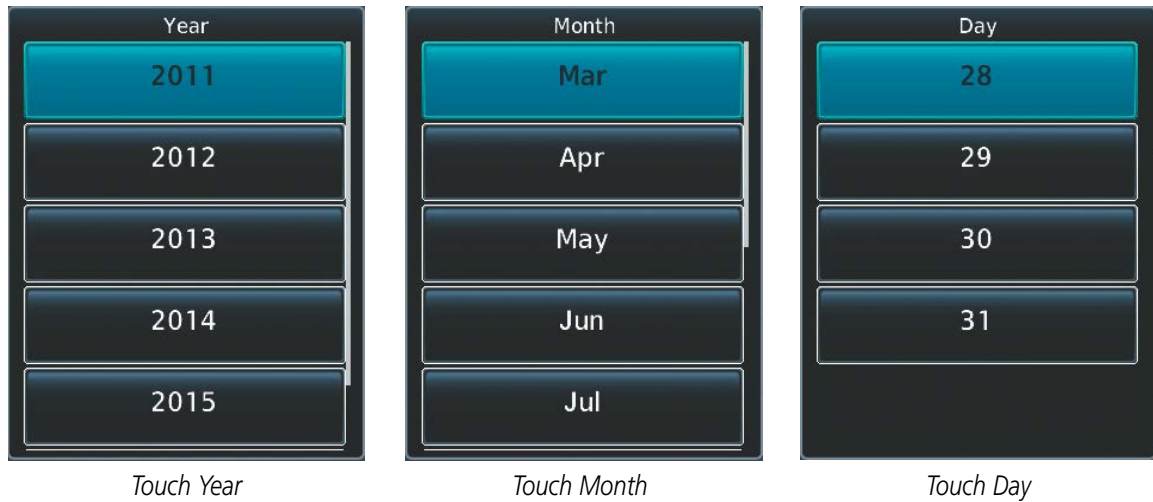

Figure 8-127 Event Date Entry
12) Touch the desired year, as in Figure 8-127, then the month followed by the day.